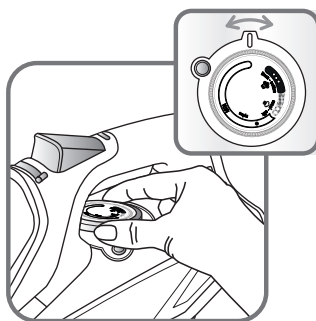

fig.2
- Set the temperature control dial **fig.2** on position (Min.)